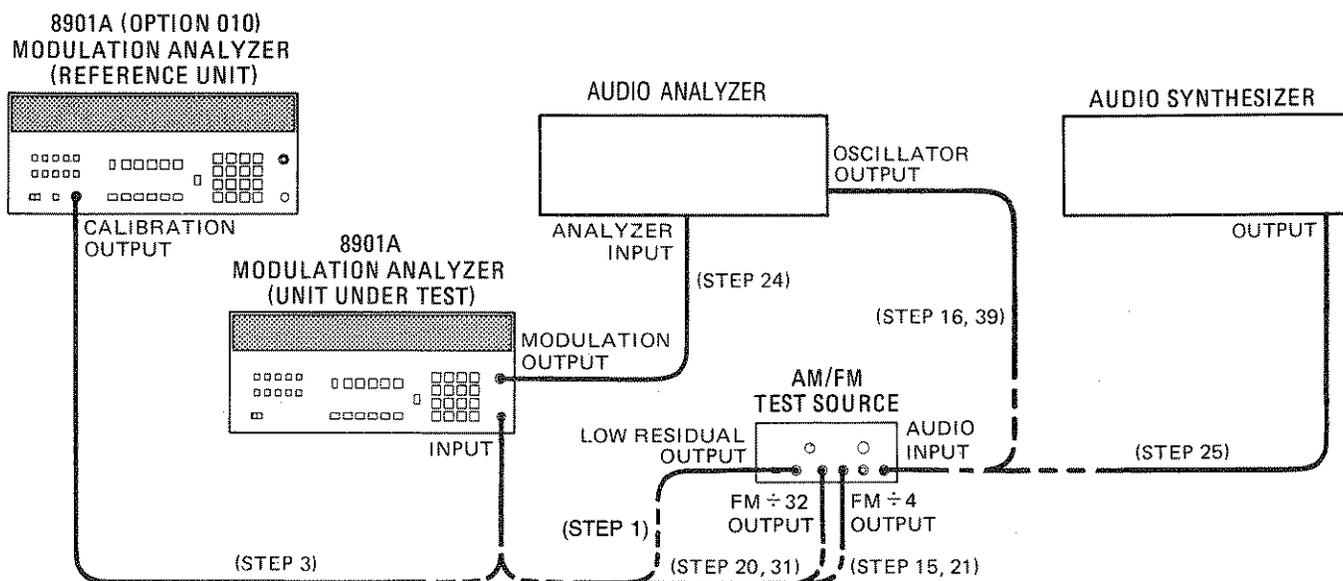

Figure 4-4. FM Performance Test Setup (Using a Second HP 8901A Equipped with Option 010)
1. On the AM/FM test source, set the test mode to residual FM. Connect its low-residual (560 MHz) output to the Modulation Analyzer's INPUT. (See figure 4-4.)
3. Connect the CALIBRATION OUTPUT of the HP 8901A with Option 010 (Reference Unit) to the INPUT of the Modulation Analyzer under test. (See figure 4-4.)
15. On the AM/FM test source, set the test mode to FM. Connect its FM÷4 output to the Modulation Analyzer's INPUT. (See figure 4-4.)
16. Set the audio analyzer's source to 10 kHz at 0.5 V. Connect its output to the audio input of the AM/FM test source. (See figure 4-4.)
20. Connect the FM÷32 output of the AM/FM test source to the Modulation Analyzer's INPUT without disturbing the AM/FM test source's controls. (See figure 4-4.) Multiply the displayed ratio on the Modulation Analyzer by the result of step 11 divided by the result of step 6. (For example, if the display reads 12.52% REL and the result of step 11 is 33.400 kHz and the result of step 6 is 33.333 kHz, the desired result is $(12.52 \times 33.4) \div 33.333 = 12.55$.) The result should be between 12.35 and 12.65% REL.
21. Connect the FM÷4 output of the AM/FM test source to the Modulation Analyzer's INPUT. (See figure 4-4.)
24. Connect the audio analyzer's input to the MODULATION OUTPUT of the Modulation Analyzer under test. (See figure 4-4.) Set the audio analyzer to measure the distortion on the 100 kHz signal at the MODULATION OUTPUT (all audio analyzer filters should be off). The distortion should be 0.1% or less (-60 dB or less).
25. Set the audio synthesizer to 10 kHz at +15 dBm. Connect its output to the audio input of the AM/FM test source. (See figure 4-4.) Fine adjust the level for a Modulation Analyzer display of 100 kHz times the result of step 11 divided by the result of step 6. (For example, if the result of step 11 is 33.400 kHz, and the result of step 6 is 33.333 kHz, set the level for a display of $(100 \text{ kHz} \times 33.400) \div 33.333 = 100.2 \text{ kHz}$.)
31. Connect the FM÷32 output of the AM/FM test source to the Modulation Analyzer's INPUT. (See figure 4-4.)
39. Set the audio analyzer's source to 10 kHz at 2 V. Connect its output to the audio input of the AM/FM test source. (See figure 4-4.) Fine adjust the oscillator level for a Modulation Analyzer display of 10 kHz peak deviation.